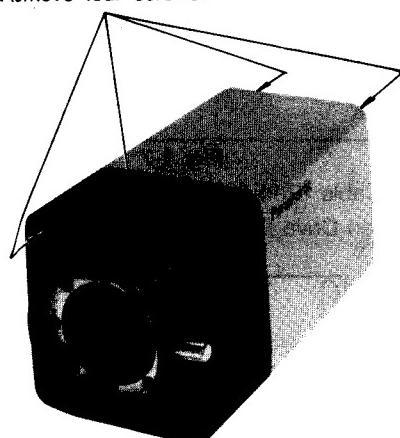

Fig. 2-1-1
- Referring to Fig. 2-1-1, remove four screws fixing the Upper Cover and remove the Upper Cover.